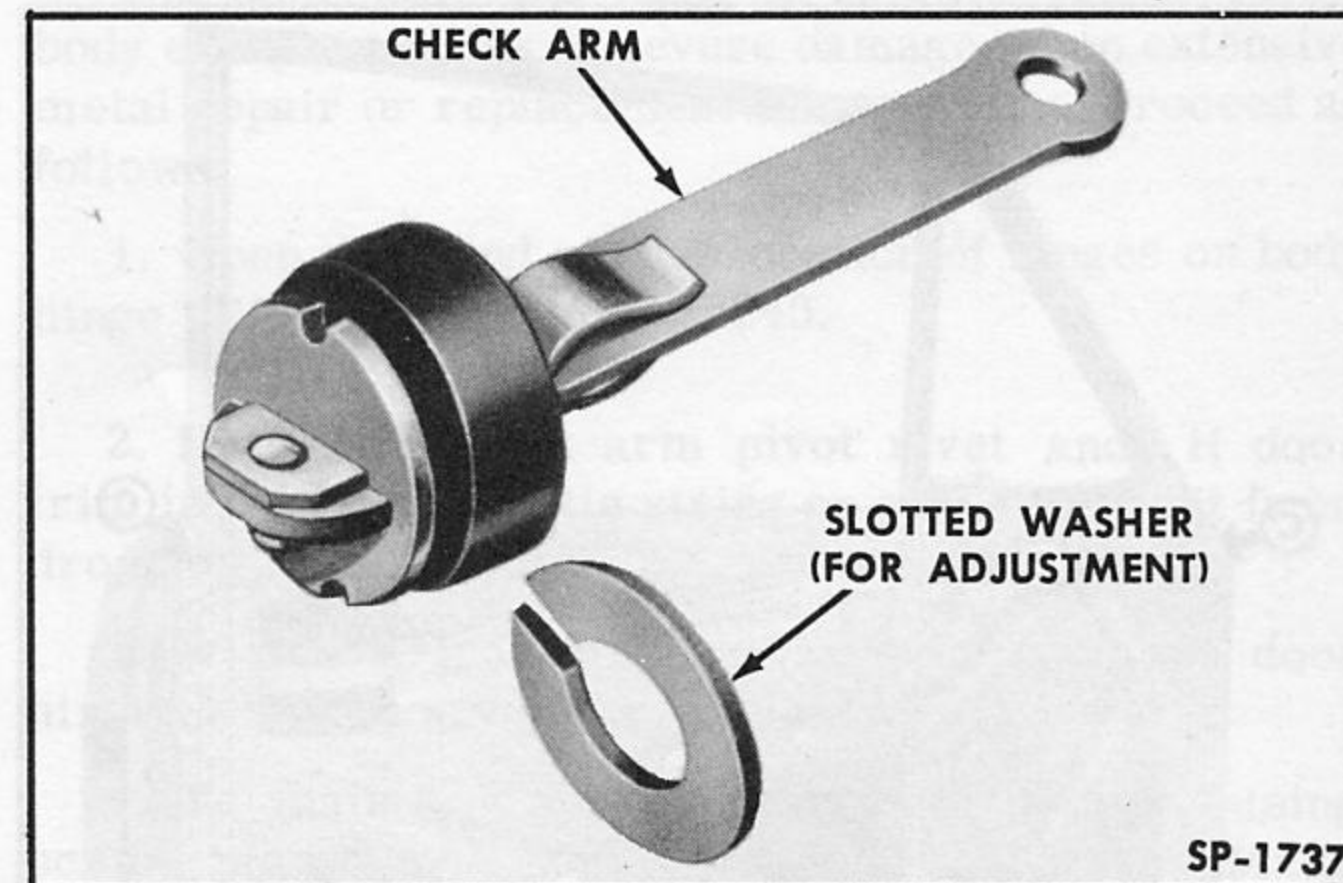

Fig. 237—Door Check Arm
The door check consists of the arm (Fig. 237), a spring guide which is attached to the door, and a pivot bracket welded to the body hinge pillar. The arm pivots on the pivot bracket by means of an attaching rivet. Replace the door check parts as follows:
4. If check arm allows door to open too far, make a slotted washer as shown in Fig. 237 and insert between rubber and steel washers on check arm.